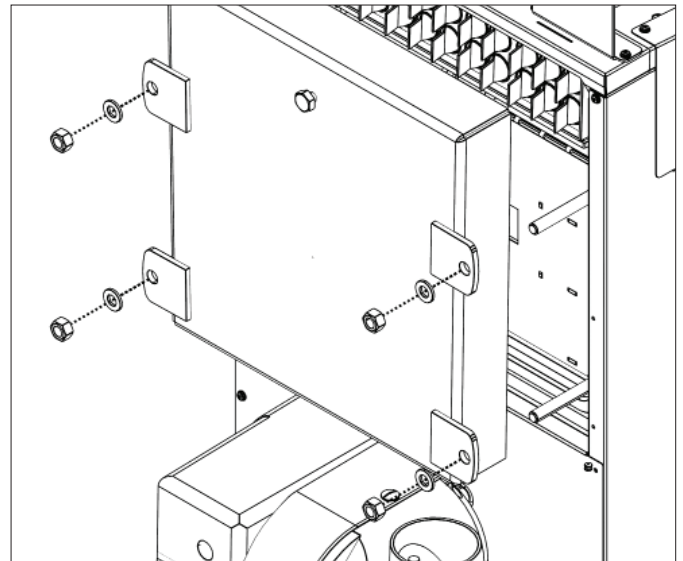

Figure 10-3: Removing the front cleaning door (26/35 model)
3. Unscrew and remove the nuts and washers securing the front cleaning door from the boiler - take care as it is HEAVY! Refer to Figure 10-3.